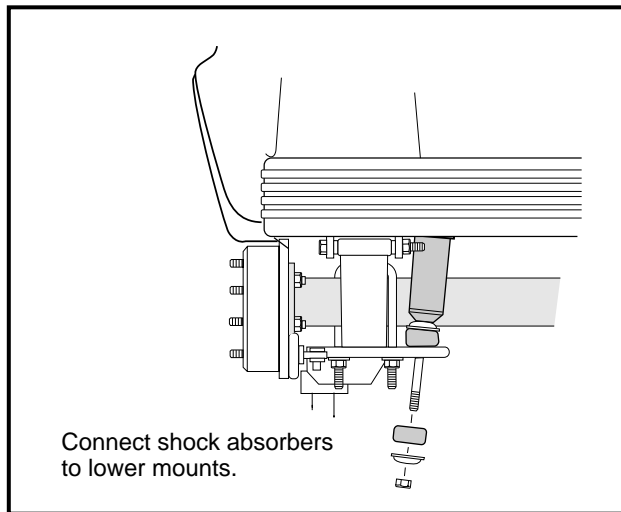

Figure 16-93 Shock Absorber
17. Position shocks in the shock mounts and install cushions, mounting washers and nuts (**Figure 16-93, Page 16-37**). Tighten nuts until cushions expand to be the same diameter as the mounting washers.